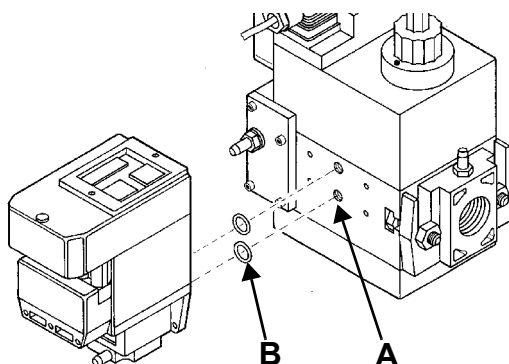

Fig. 6
- 3 remove the Multibloc screw plugs (Fig. 6-A);
- 4 insert sealing rings (10,5 x 2,25) into VPS 504 (Fig. 6-B - Fig. 7)